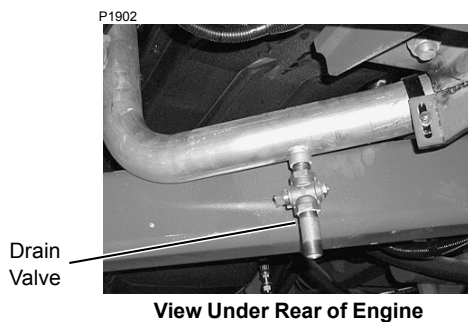

FIGURE 7-22
5. Open drain valve (Figure 7-22) and drain coolant into a suitable container.